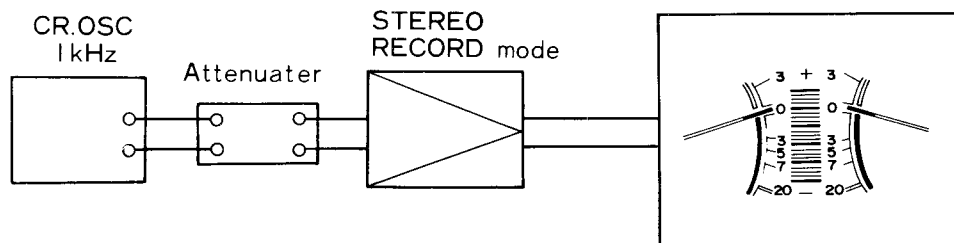

Fig. 20
2. MEASUREMENT OF RECORDING AMPLIFIER SENSITIVITY (Refer to Fig. 20)